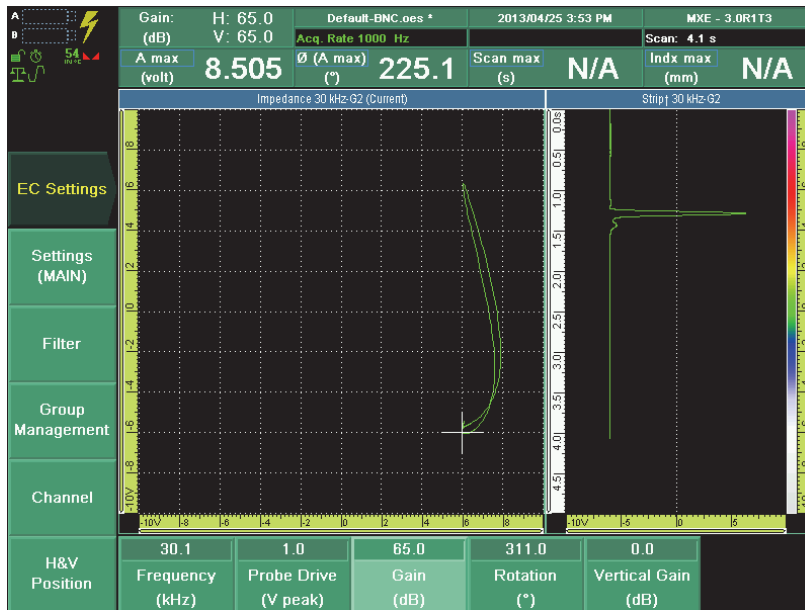

Figure 9-38 Configuring the Frequency parameter for mixing frequency 2
- c) Select **Frequency (kHz)**, set the value to three times the frequency set for the first frequency ($\text{Freq-1} \times 3$), and then press the Accept key to confirm. In this example, the **Frequency (kHz)** value is set to 30.0 (see Figure 9-38 on page 184).